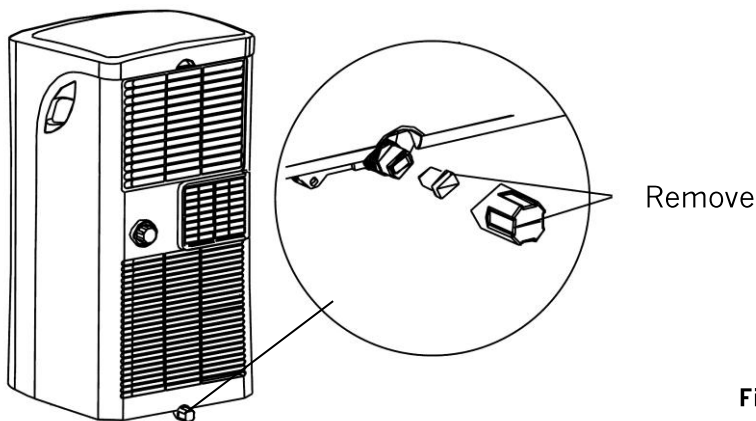

Fig. 22
3. Unscrew and remove the lower drain cap and remove the stopper (fig. 22).